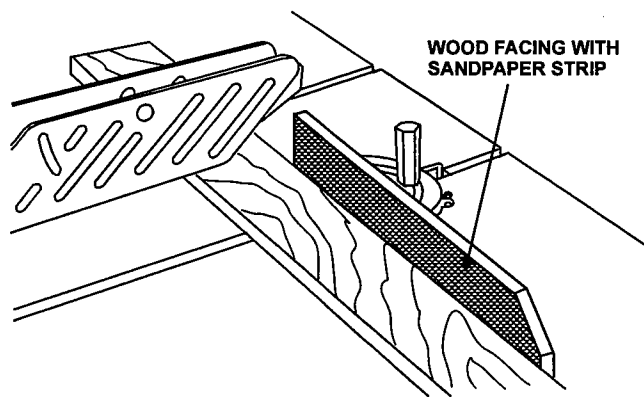

FIGURE 19
4. To improve the effectiveness of the miter gauge in crosscutting, some users mount an auxiliary wooden extension face (with a glued-on strip of sandpaper) to the miter gauge as shown in Figure 19.